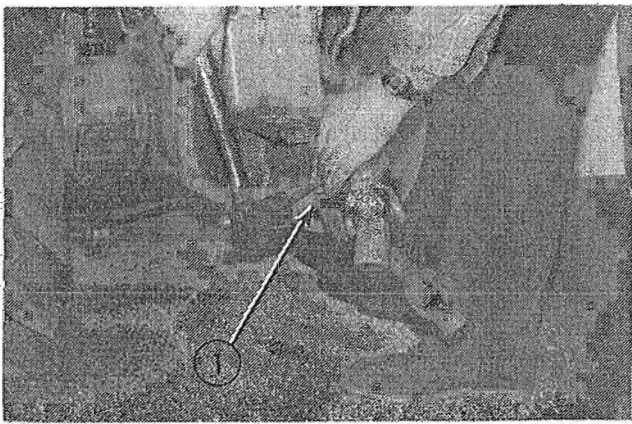

FIG. 1
(1) Prior to removing the rear cover, drain the transmission lubricant.
(2) Drive out the roll pins (1, Fig. 1) and remove drive shafts.